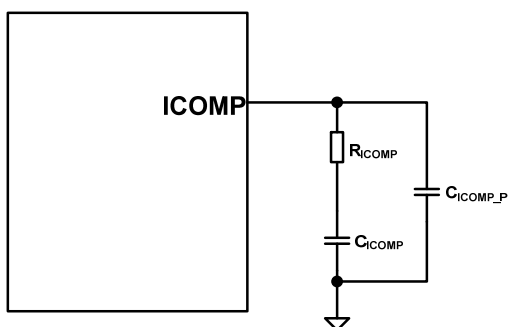

Figure 6: Compensation Network on ICOMP
ICOMP is the compensation node for the LED current control loop. Connect a capacitor in series with a resistor on ICOMP or an R-C-C network (see Figure 6). The zero composed of R_{ICOMP} and C_{ICOMP} is recommended to cancel the pole formed by the LED output. See Equation (10):